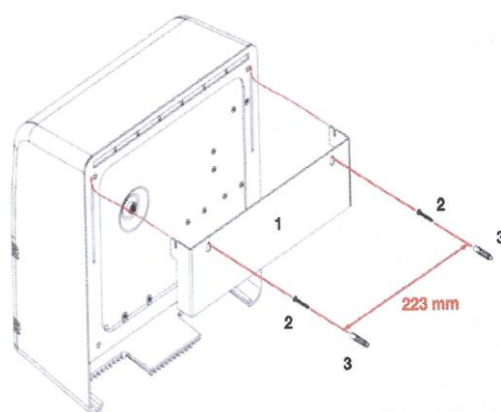

Figure 2.3
1) The bracket should be mounted with the hooks facing up. Also note that the mounting locations of the mount are on the upper part, if mounted correctly (see Figure 2.3)